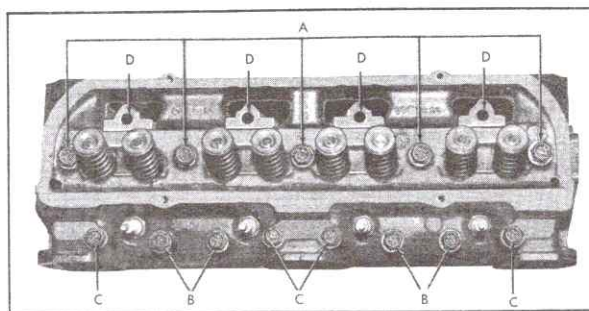

Fig. 6-133 Cylinder Head Cap Screw Location & Length
7. Install rocker arm assemblies with attaching screws, in position on cylinder head. Tops of push rods must be seated in rocker arm sockets. Install cylinder head cap screws as shown in Fig. 6-133.
Cylinder head bolt locations and bolt lengths are shown in the following chart. Use this chart in conjunction with Fig. 6-133 when installing cylinder head bolts.